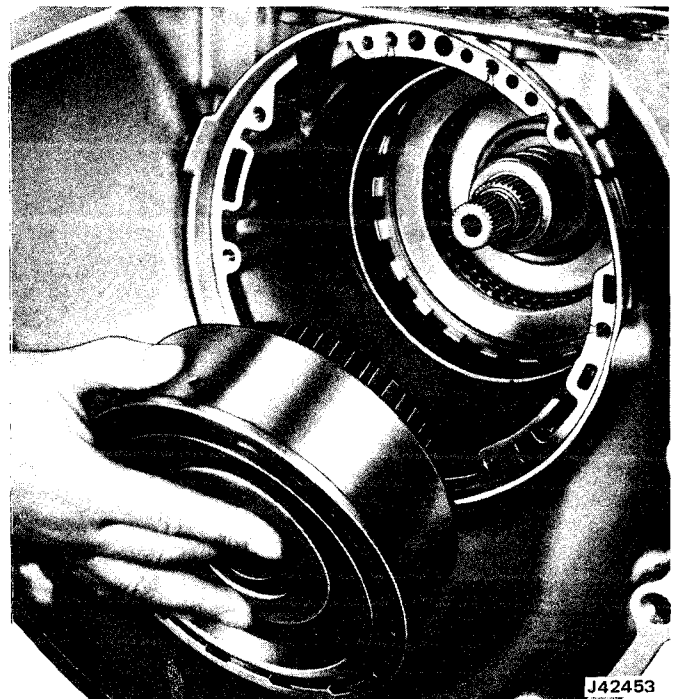

Fig. 2C-30 Direct Clutch Removal-Installation
(7) Remove retainer spring from parking pawl shaft (fig. 2C-33).